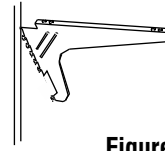

Figure 33
1. Cantilever brackets are attached to the panels by inserting the teeth along the rear edge into the slotted trimrail on the panel. Cantilever brackets are height adjustable in 1" increments. Each worksurface will be supported by at least (2) cantilever brackets (1 left, 1 right).
4. Holding the front edge of a left hand cantilever bracket (stamped with an "L") higher than the rear edge with the teeth, slide the top safety tooth into the trimrail slot you located in step 3. **Figure 33.**